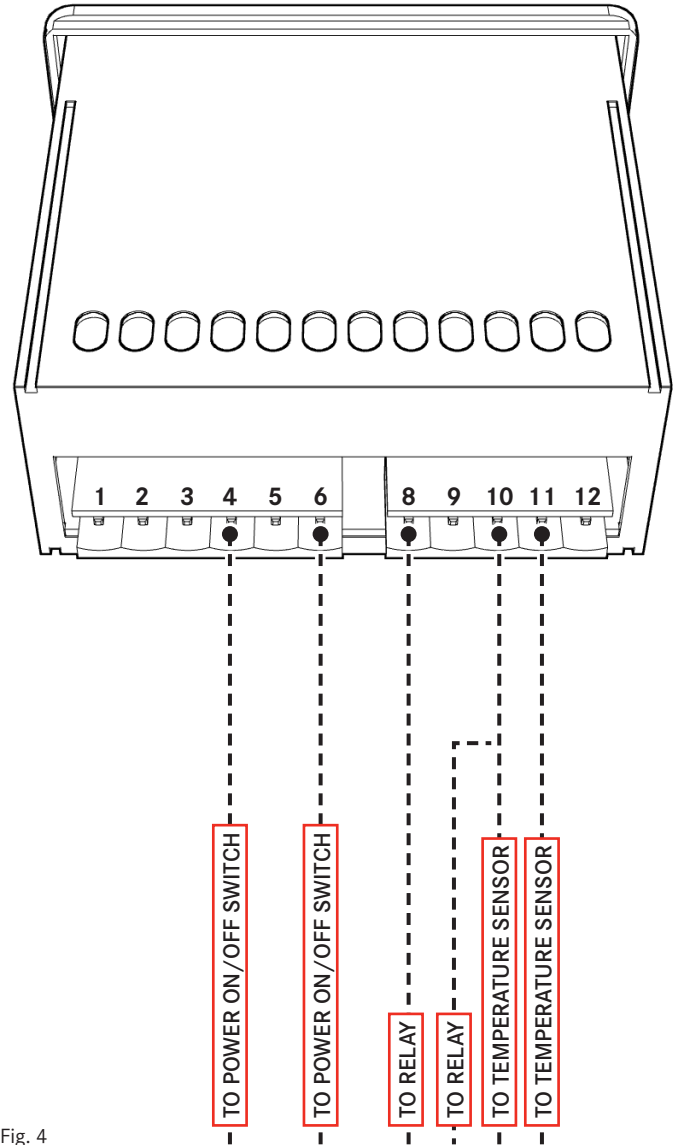

Fig. 4
5. Install in reverse order. Refer to Fig. 4 and 5, and Tables 1 and 2, for connection points for each wire on the controllers and switch.